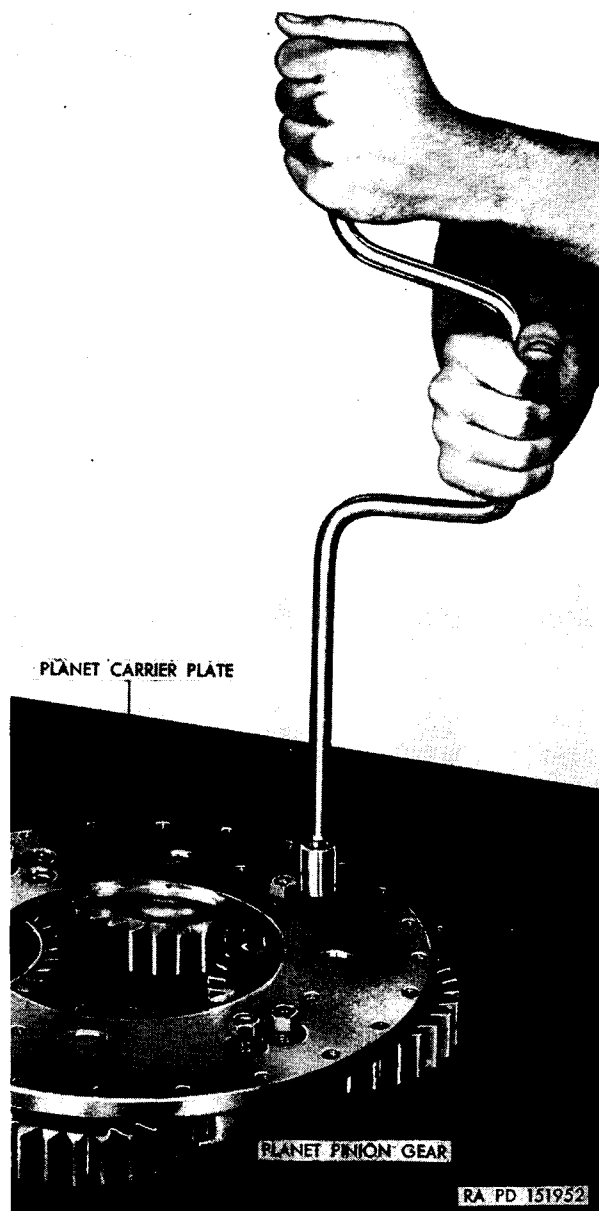

Figure 213. Installing planet-carrier plate.
- (8) Install the planet-carrier plate on the planet-carrier dowels. Seat the plate on the planet carrier by tapping with a soft hammer. Install eight self-locking $\frac{1}{16}$ -inch bolts (fig. 213) and torque them 50 to 60 pound-feet.